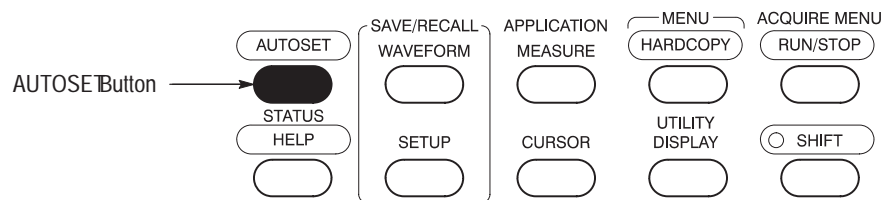

Figure 2-8: AUTOSET Button Location
2. Press **AUTOSET** (see Figure 2-8) and observe the stable waveform display.